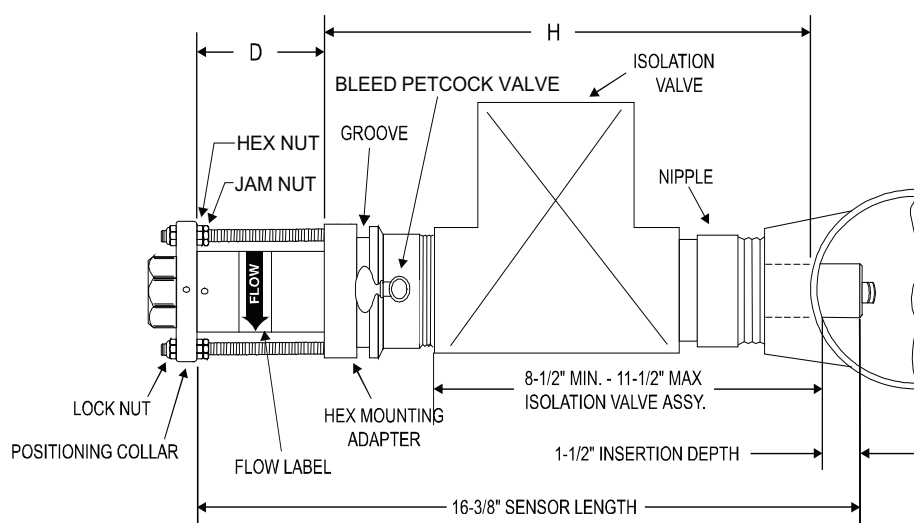
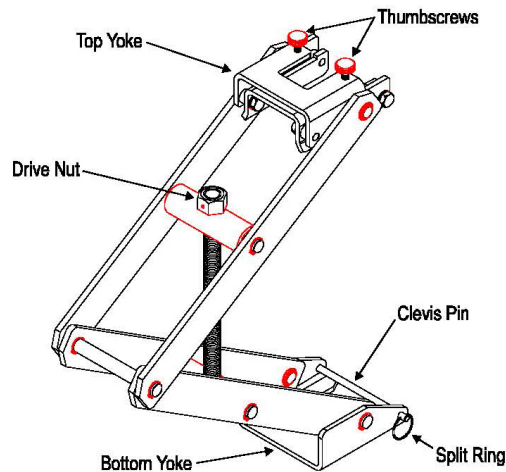

Figure 1: Pipeline installation
Figure 2: Model HTT (Hot Tap Tool)
Refer to Figure 1 for the location and/or identification of the parts described in this document.
NOTE: Badger Meter recommends that you purchase a Hot Tap insertion/removal Tool (Model HTT) for future service, even if the sensor is installed in a drained system. The Model HTT allows you to remove the sensor sleeve assembly from the pipe line without draining the entire loop where the sensor is mounted. See Figure 2.
Refer to Figure 2 for the identification and location of the HTT parts described in this document.
To calculate the distance (D) between the top of the sensor hex mounting adapter and the bottom of the positioning collar (the top of the hex nut), **ADD** the H dimension, pipe wall thickness, and insertion depth, and **SUBTRACT** the total from the overall sensor length. See the example and formula below, and refer to Figure 1.
To install the hot tap flow sensor assembly into a pressurized pipeline with the Model HTT, follow these steps. Use Figure 1 and Figure 2 for reference.
Use Figure 1 and Figure 2 for reference.